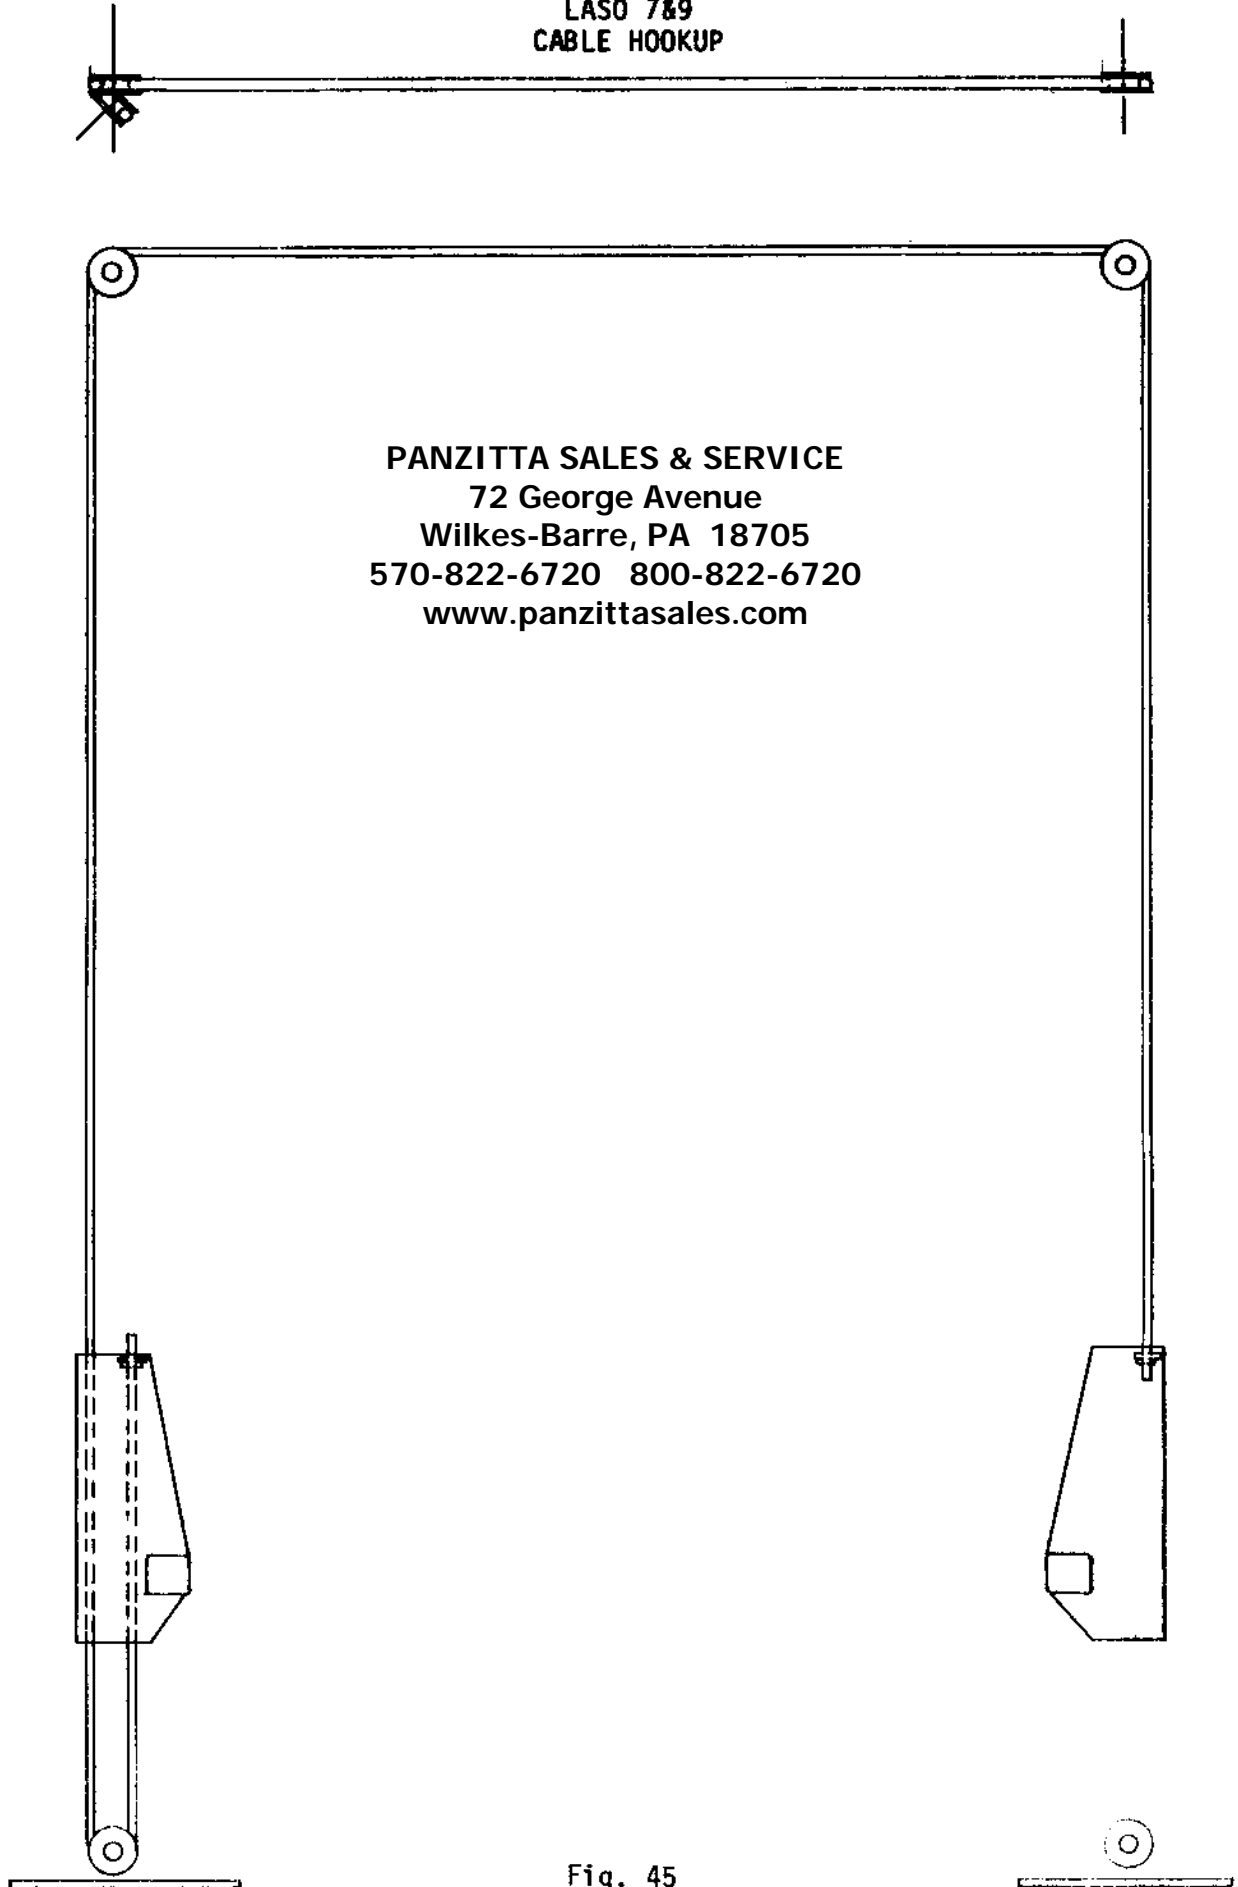
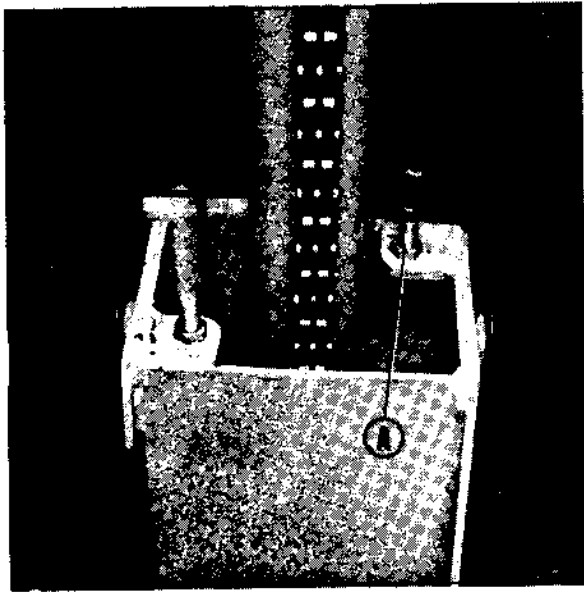

Fig. 45
Fig. 49
24. Install cables as shown in Figures 45 and 49. Adjust cable going up and over (one on right side of Fig. 49) in center of travel with jam nuts. Tighten top nut to remove slack. Cable will fit in hole nearest back of post.